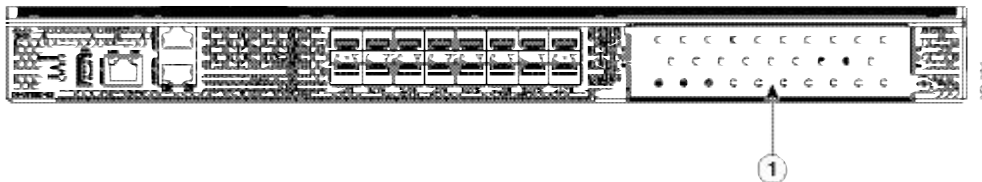

Figure 15. Inserted Linecard Expansion Blank Module
5. Physically insert the linecard expansion blank module, as shown in Figure 15 on page 25 to ensure proper system cooling.